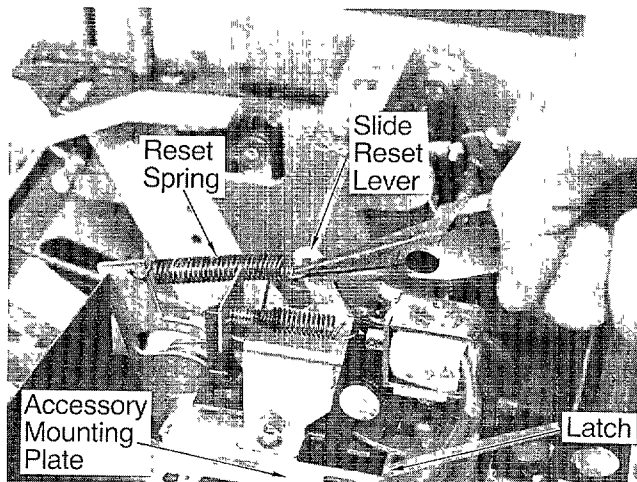

Fig. 4
2. Remove the slide reset lever spring as shown in Fig. 4. Care should be exercised not to nick or damage the spring in any way, since it will be needed for reassembly.
- Replace slide reset lever spring (Fig. 4).